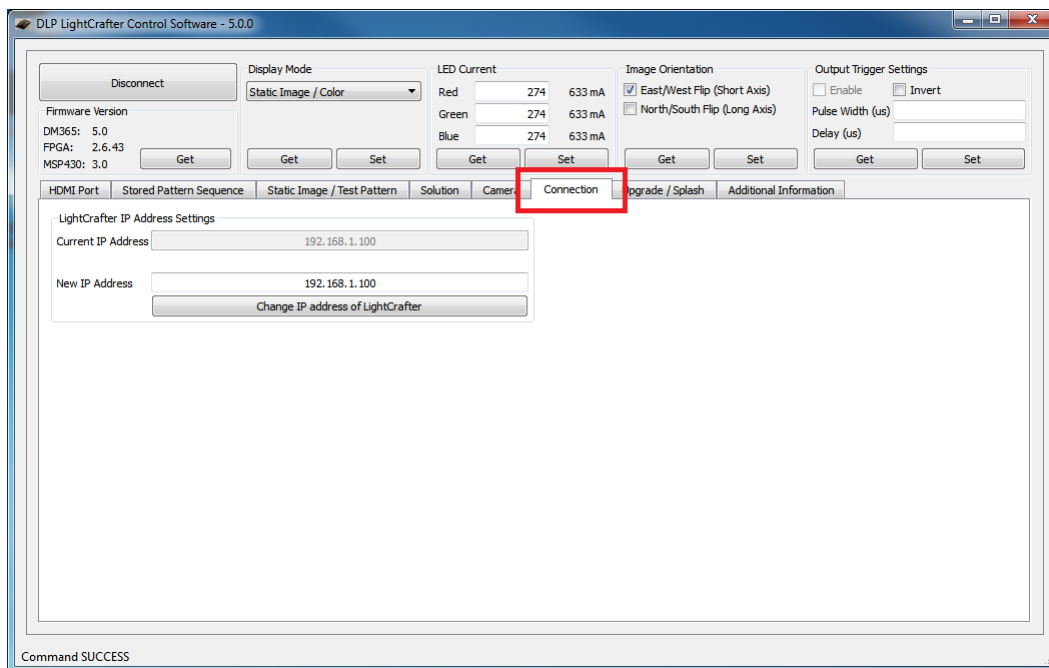

Figure 2-19. DLP LightCrafter GUI Connection Tab
2. Select the "Connections" tab. See Figure 2-19.